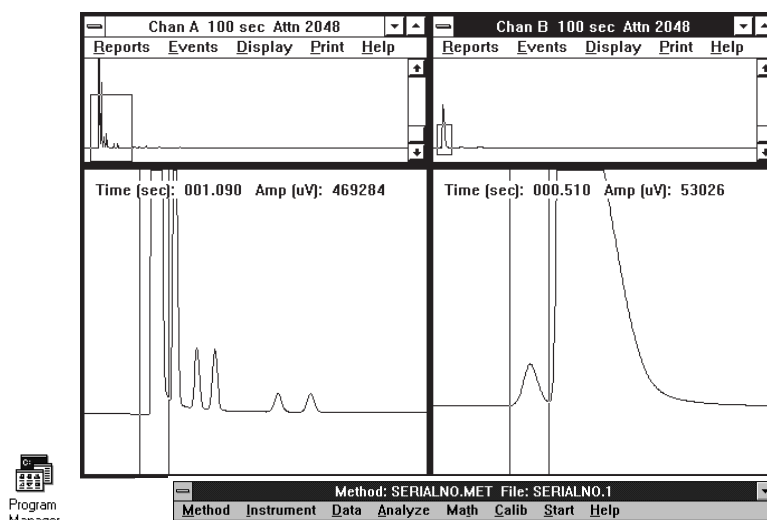

Figure 31 Using vertical cursors to set peak width
9. Next, place the vertical cursors on either side of the first peak (See Figure 31). **Be sure that the cursors are frozen at the very beginning and end of the peak;** zooming may be required to get the clearest view.